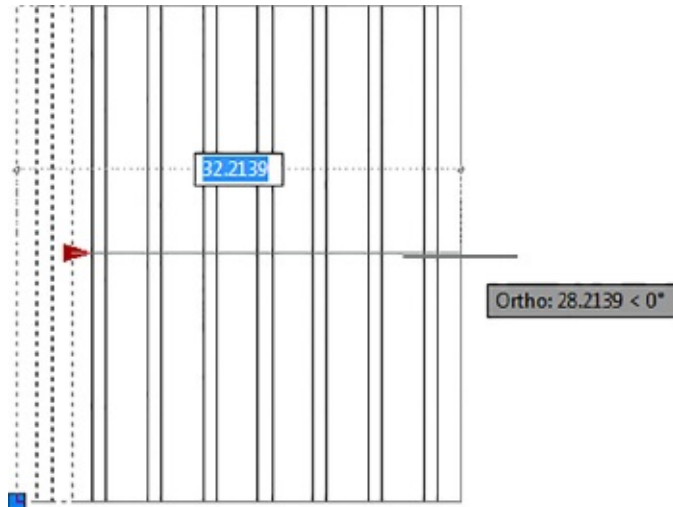

FIGURE 17.35 The Railvertical block adds vertical bars as its width expands.
9. Click and drag the blue arrow grip to the right. As the rail expands, additional vertical bars are added at 4" intervals (see Figure 17.35).